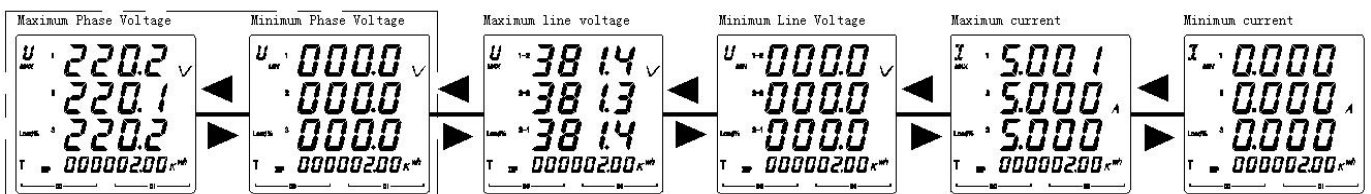

Figure 23
5.2.8 View the extreme value parameters of the DEMP-AC3-DXX-E as shown in Figure 23.